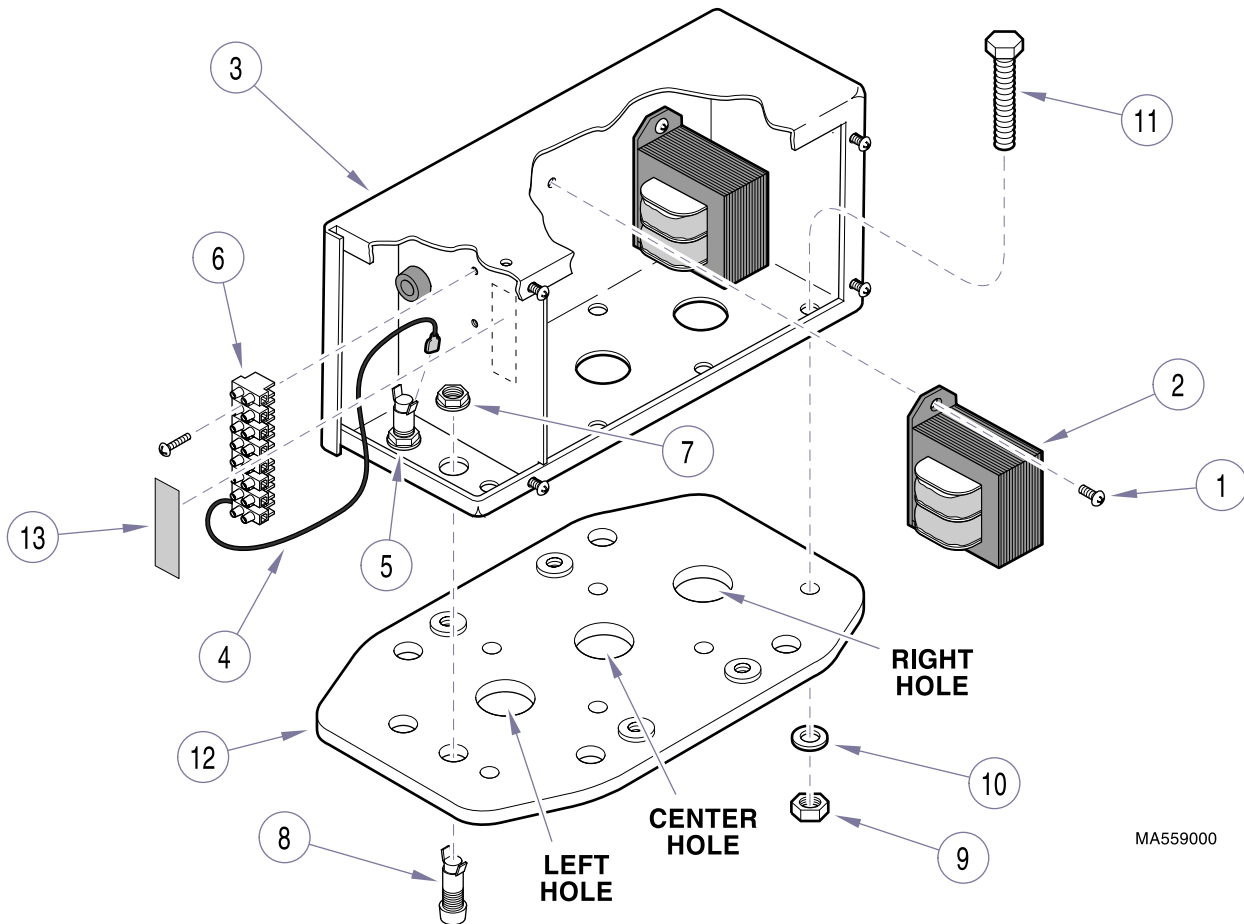
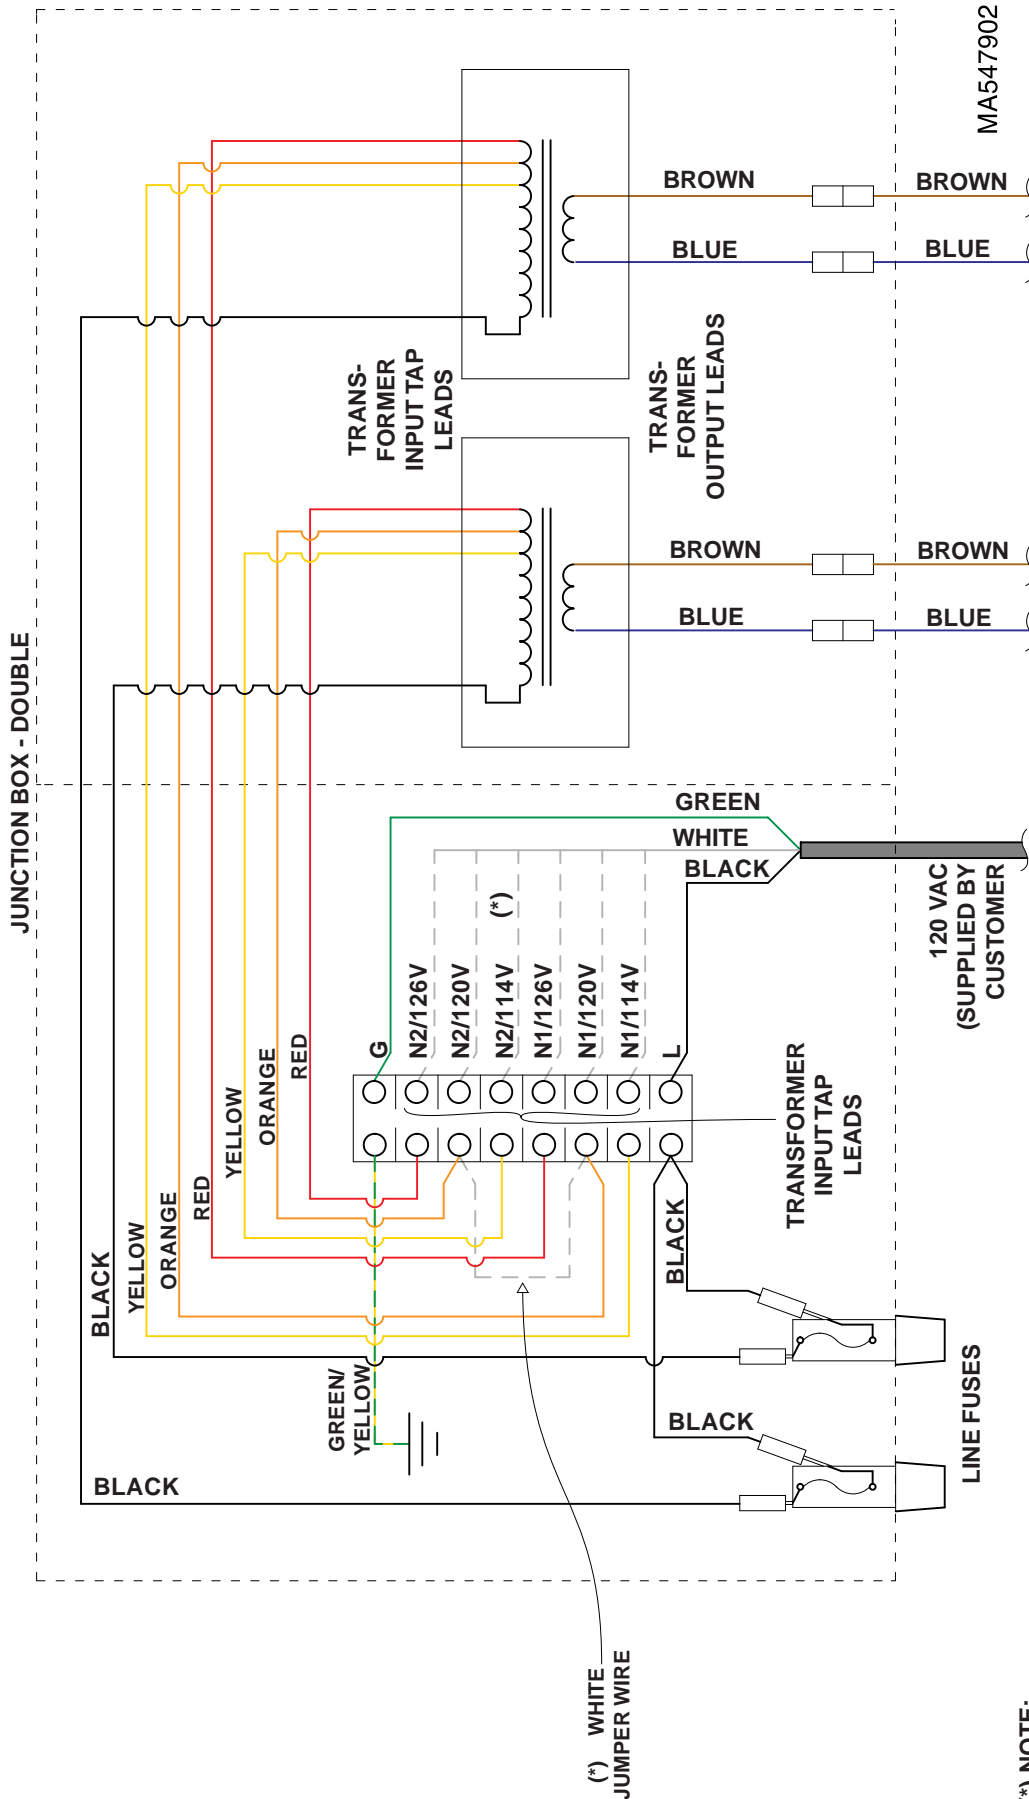

Figure 4. Assembling Double Ceiling Plate
Figure 5. Wiring Diagram
1. Remove two screws (1, Figure 4) and transformer (2) from junction box (3).
2. Remove black jumper wire (4) between fuse holder (5) and terminal block (6).
3. Remove nut (7) and fuse holder (8) from junction box (3).
4. Remove three nuts (9), washers (10), and studs (11) from ceiling plate (12).
5. Discard junction box (3) and ceiling plate (12).
1. Look at ceiling plate (See Figure 4). Notice that there are three sets of hole patterns on the ceiling plate. On the single light system, the center hole pattern is used. On a dual light system, such as the one about to be assembled, the left and right hole patterns are used and the center hole pattern is left unused.
2. Install three studs (11) in remaining left or right unused holes and secure with three washers (10) and nuts (9).
3. Install second fuse holder (8) in junction box (3) and secure with nut (7) (supplied with fuse holder).
4. Install second transformer (2) in junction box (3) and secure with two screws (1).
6. Install 8-position terminal block (6) and label (13) onto junction box (3).
7. Connect black jumper wire to fuse holder (8). Connect both black jumper wires to terminal block (6) per wiring diagram (See Figure 5).
8. Connect transformer wires to terminal block (6) and fuse holders (5) and (8) per wiring diagram (See Figure 5).
9. Connect green / yellow ground wire to terminal block (6) per wiring diagram (See Figure 5).
10. Connect 4" (10 cm) long jumper wire to correct terminals of terminal block (6) per wiring diagram (See Figure 5).